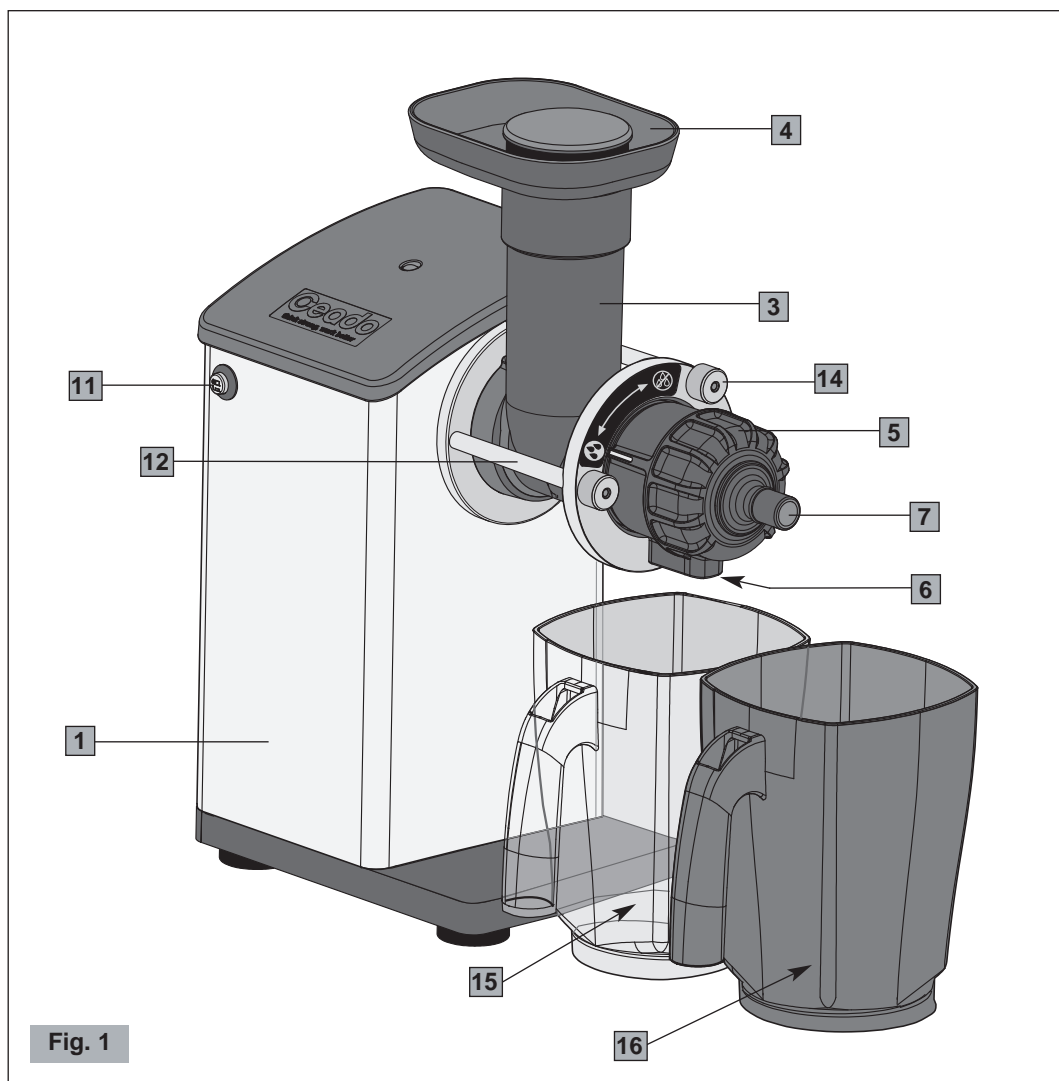
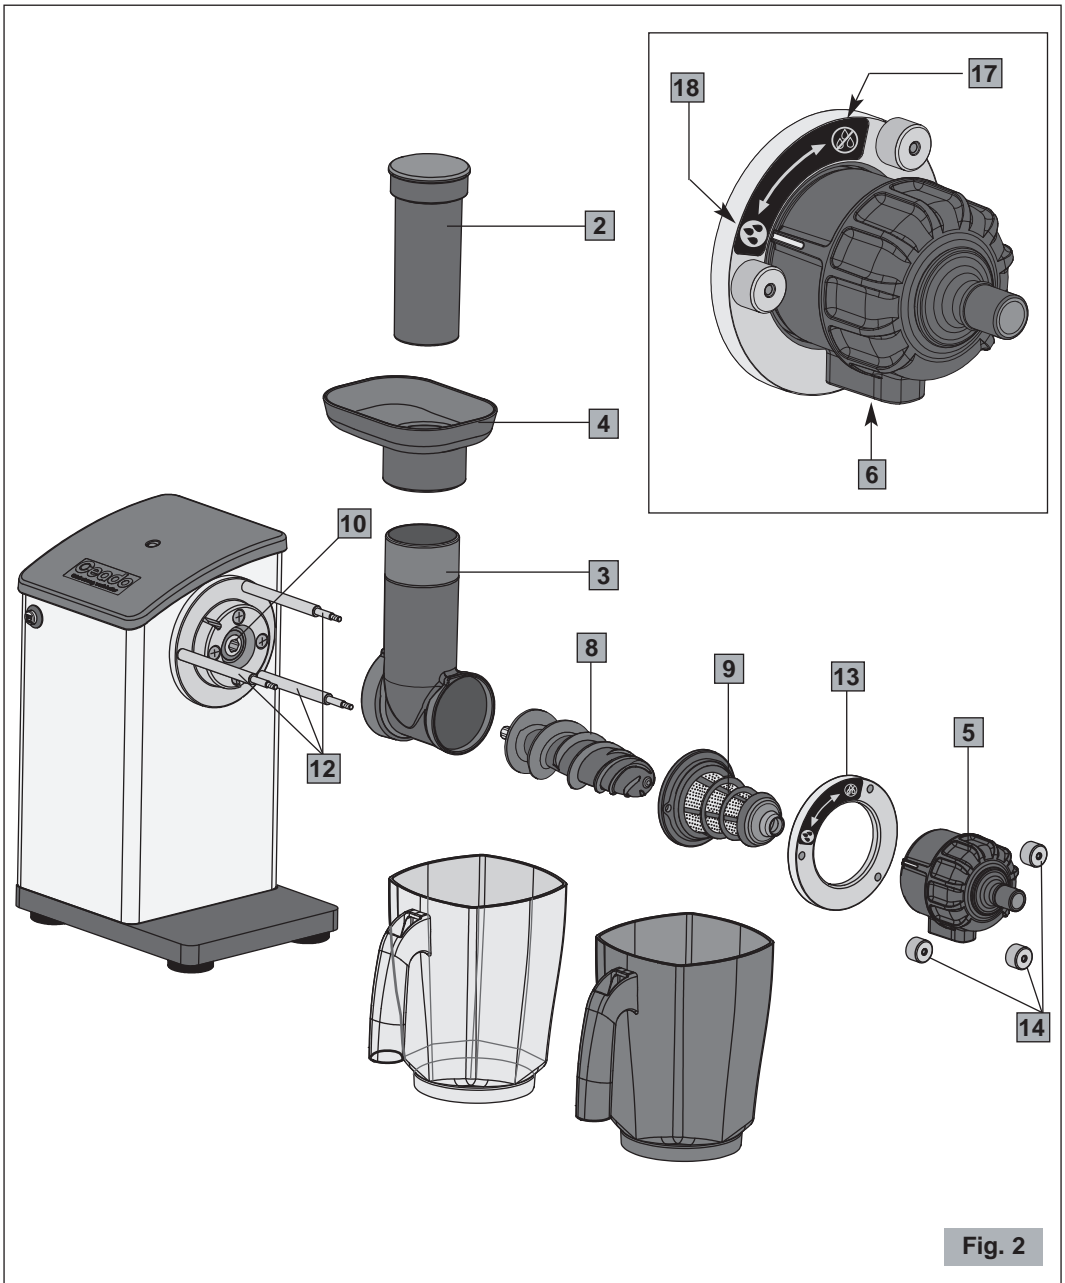

Fig. 1
Fig. 2
Main parts (Fig. 1 - Fig. 2)
Before connecting the plug to the power socket, make sure that the ON-OFF switch (11 Fig. 1) is in position "O" (OFF).
- 3** Place the juice jug (15, Fig. 1) under the juice outlet and the waste jug (16, Fig. 1) under the waste discharge.
During operation of the appliance, the splash cover (5, Fig. 1) must be in open position (“three drops” symbol). After having stopped the motor, to avoid dripping, close the splash cover by turning it clockwise through 90° (“drop stop” symbol).